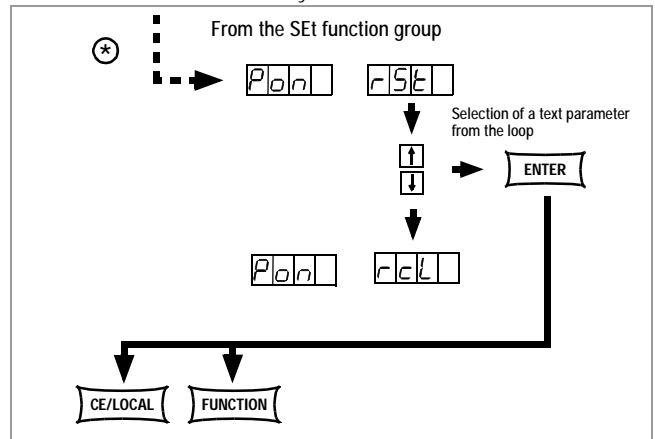

Figure 4.2.1.6 Path to Pon Text Parameter Settings
- ☞ The procedure for setting PON is in principle identical to the procedure used for adjusting U_{lim} (see 4.2.1.1, figure 4.2.1.1).